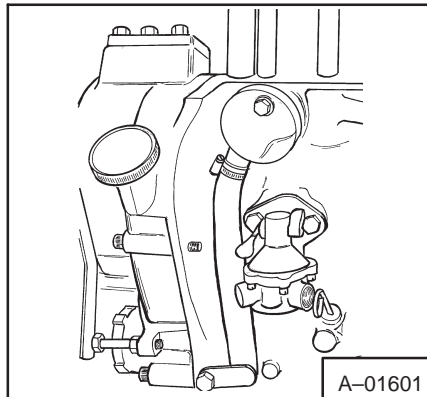

Fig. 1-16 Crankcase Breather (Deutz)
1. Remove bolts that hold crankcase vent housing in place (Fig. 1-16).